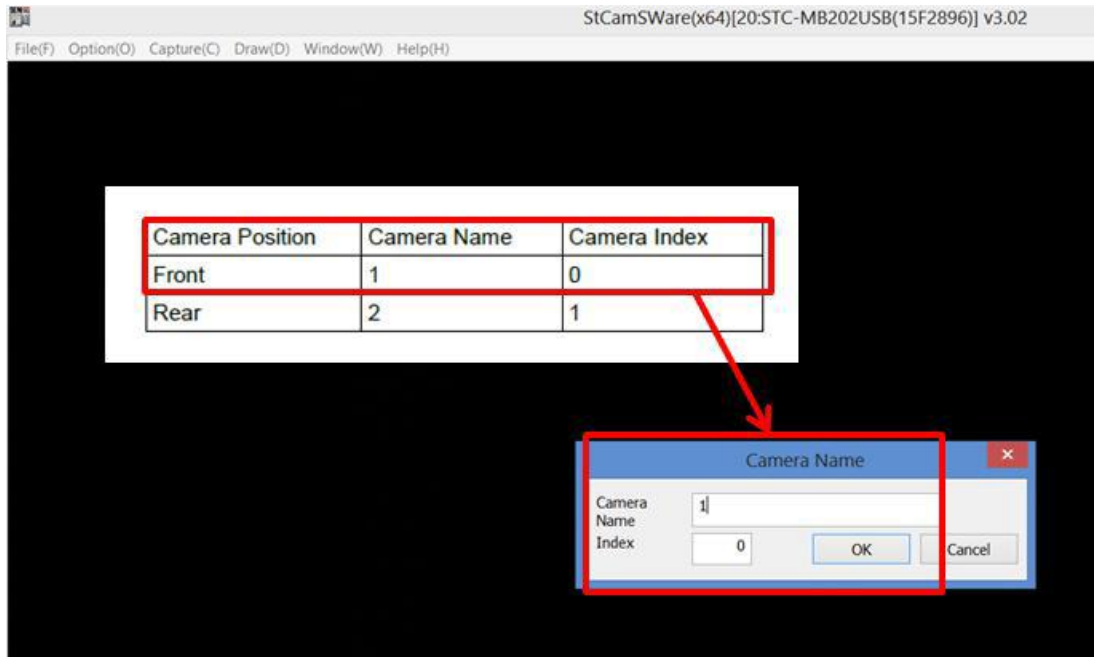

Figure 31 Camera Name Dialog box
29. Configure Front PSP 2 Camera Module by refer to below Figure 31 and Click “OK”.